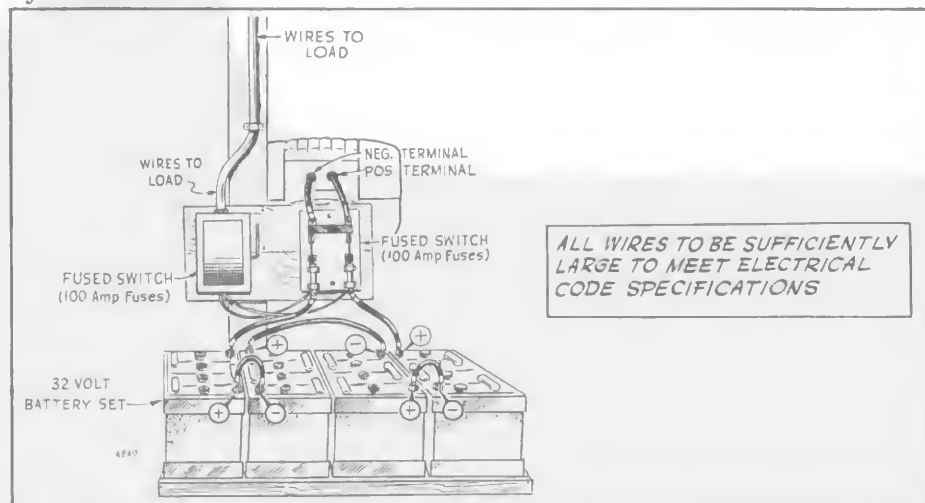

FIG. 10 - BATTERY CHARGING LOAD CONNECTIONS
A single throw, double pole fused switch should be installed between the plant and the battery. See Fig. 10. Your dealer should be able to supply a suitable switch. If not, they are available at most electrical supply houses. Be sure to use 100 ampere fuses in the switch. Keep the switch closed except when servicing the plant. It can then be opened to prevent accidental starting of the plant.
Connect a short length of cable from the battery positive (+) post to the hot side of the switch. Connect another length of cable from the hot side of the switch to the POSITIVE terminal on the plant control saddle. See Fig. 10.
A. 32-VOLT BATTERY CHARGING PLANTS. - Make load connections as shown in Fig. 10.